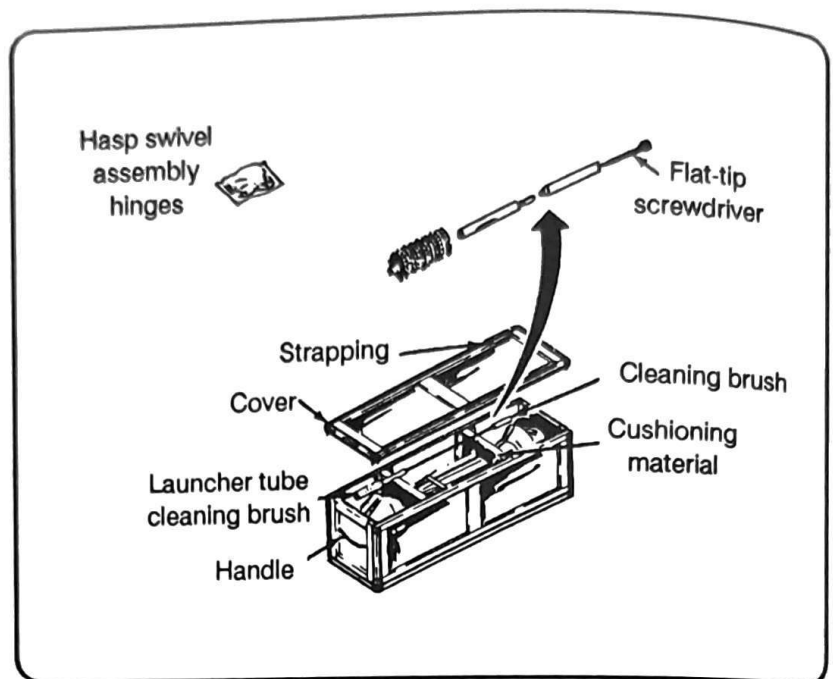

Figure 6-4. LET shipping and storage container.
d. The LET shipping and storage container (Figure 6-4) is used when the LET is transported or stored. The cleaning brush is used to clean the LET and has a pushrod for resetting the weight.